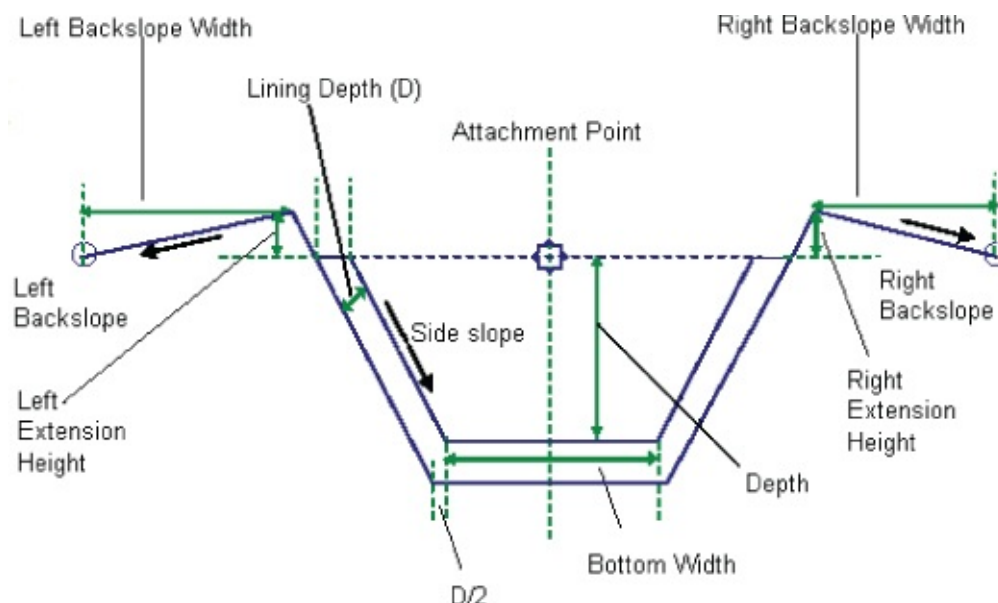

Figure 8.35 The Channel subassembly help diagram
15. Familiarize yourself with the diagram, shown in Figure 8.35, and the input parameters for the Channel subassembly.